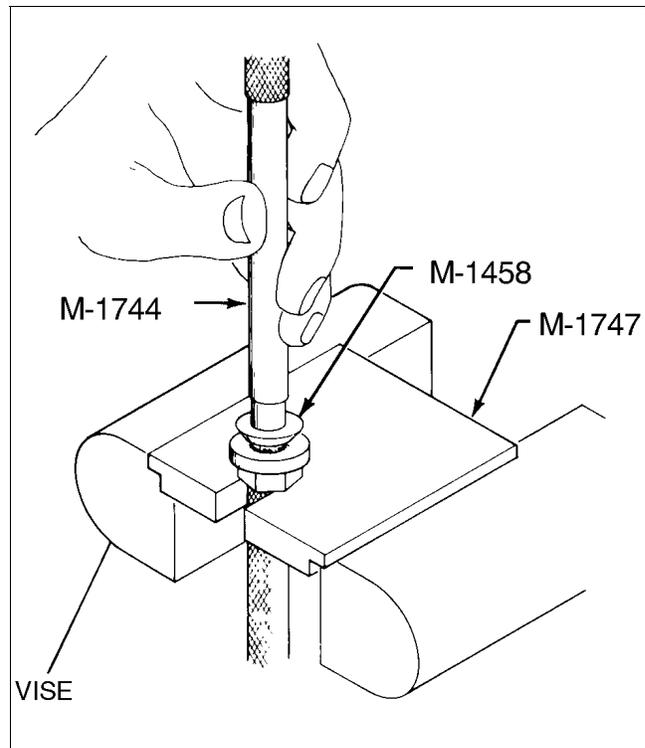

Figure 74-23. Driving Tool
10. For spark plug end, mount M-1747 drive plate in a bench vise. Set hex ferrule in drive plate slot. Drive M-1458 drive ferrule flush against the hex ferrule using the M-1744 drive tool. (Refer to Figure 74-23.) Or, press into place using T-109 pressing tool.